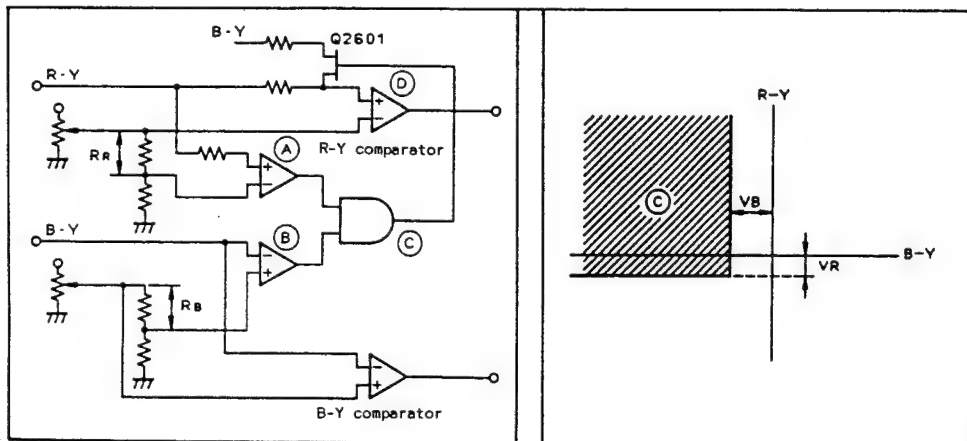

Fig. I-18
Fig. I-18 shows a block diagram of the yellow detection circuit. On input of yellow signal, each output of comparators (A) and (B) becomes positive. As a result, output of (D) (AND circuit) also becomes positive to turn on Q2601.